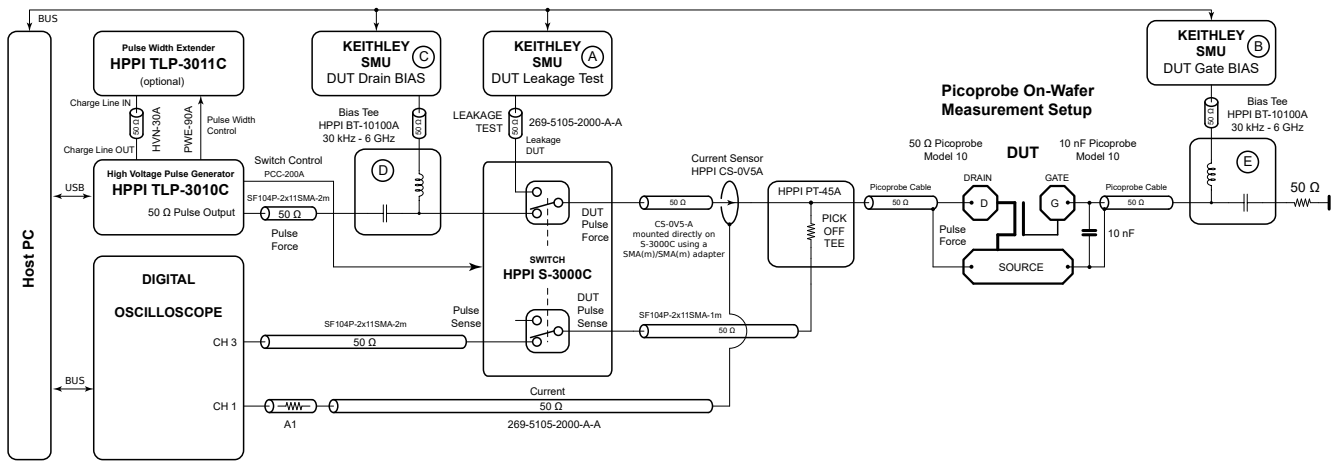

Figure 10: Wafer-level SOA measurement setup using the TLP-3010C/TLP-3011C test system
1.6 µs. Fig. 10 shows the wafer-level SOA measurement setup. This setup for SOA is very effective. The usually pulse sense probe at drain side is skipped and a pick-off tee is used instead. Measurement error due to pulse force probe contact resistance is small for drain currents <10 A.